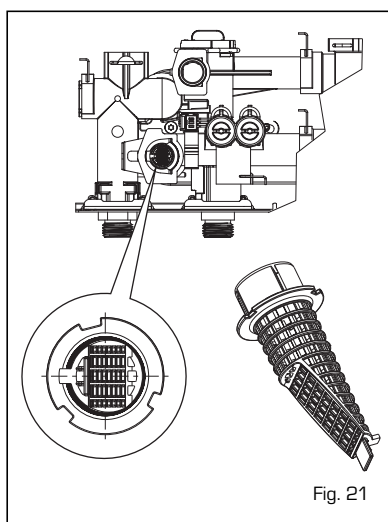

Fig. 21
4.5.2 Clean heating water filter (fig. 21)